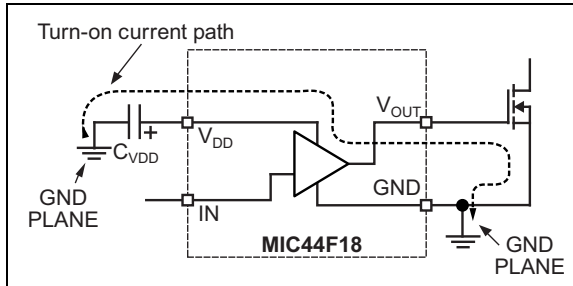
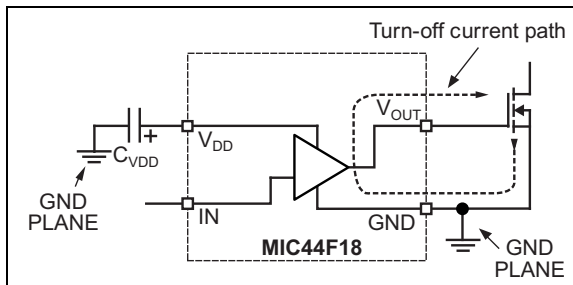

FIGURE 5-6: Critical Current Paths for High Driver Outputs.
FIGURE 5-7: Critical Current Paths for High Driver Outputs.
Figure 5-6 shows the critical current paths when the driver outputs go high and turn on the external MOSFETs. It also helps demonstrate the need for a low impedance ground plane. Charge needed to turn-on the MOSFET gates comes from the decoupling capacitors C_{VDD} . Current in the gate driver flows from C_{VDD} through the internal driver, into the MOSFET gate
Figure 5-7 shows the critical current paths when the driver outputs go low and turn off the external MOSFETs. Short, low impedance connections are important during turn-off for the same reasons given in the turn-on explanation. Current from the V_{DD} supply replenishes charge in the decoupling capacitor, C_{VDD} .
3. Trace out the high di/dt and dv/dt paths, as shown in Figure 5-6 and Figure 5-7 and minimize etch length and loop area for these con-